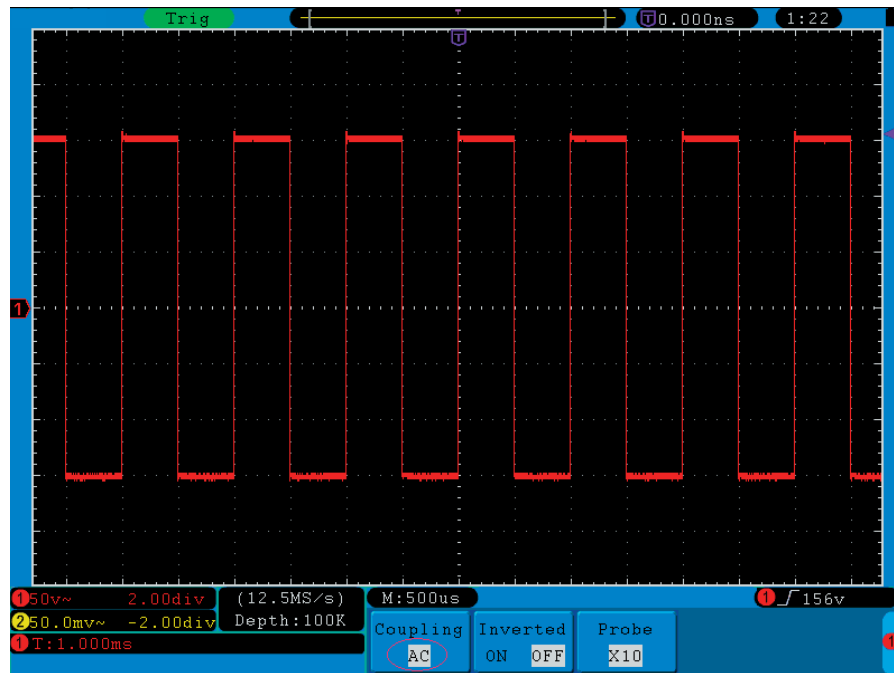

Fig. 5-2 AC Coupling Oscilloscope
- (1) Press the **CH1 MENU** button and call out the CH1 SETUP menu.
- (2) Press the **H1** button, the Coupling menu will display at the screen.
- (3) Press the **F1** button to select the Coupling item as "DC". Both DC and AC components of the signal are passed.
- (4) Then, press **F2** button to select the Coupling item as "AC". The direct current component of the signal is blocked. The waveforms are shown as Fig.5-2.